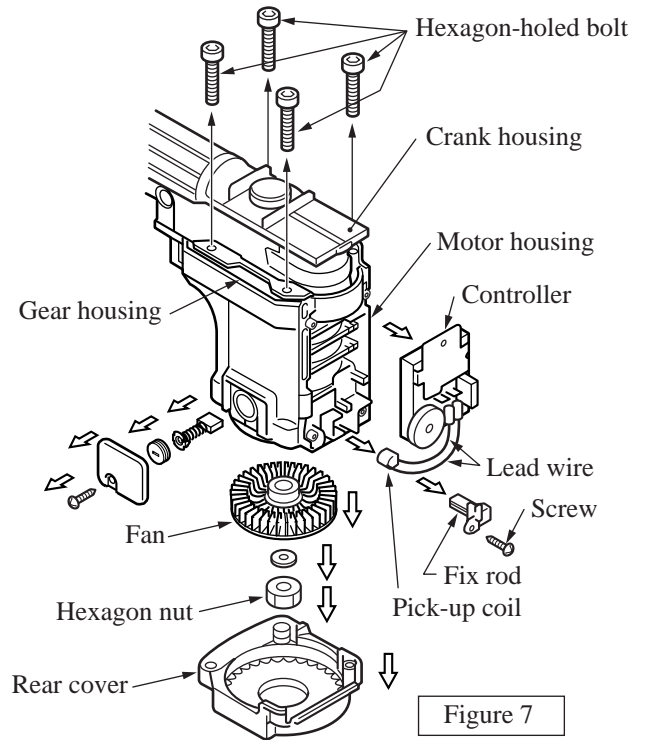

Figure 7
Note) Pulling out the lead wire of the pick up coil without removing the fix rod may cause the short-circuit. (See the figure 7.)
- g. Remove the rear cover and loosen the nut while holding the fan.(See the figure 7.)
- h. Remove the fan and disconnect the 4 pieces of hexagon-holed bolts for holding the crank housing. (See the figure 7.)